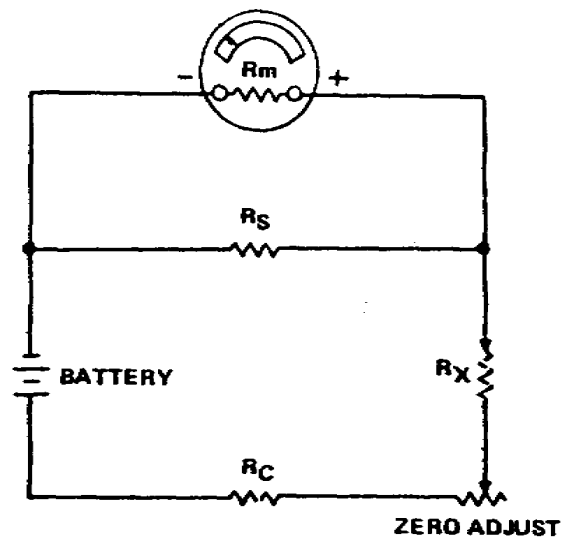
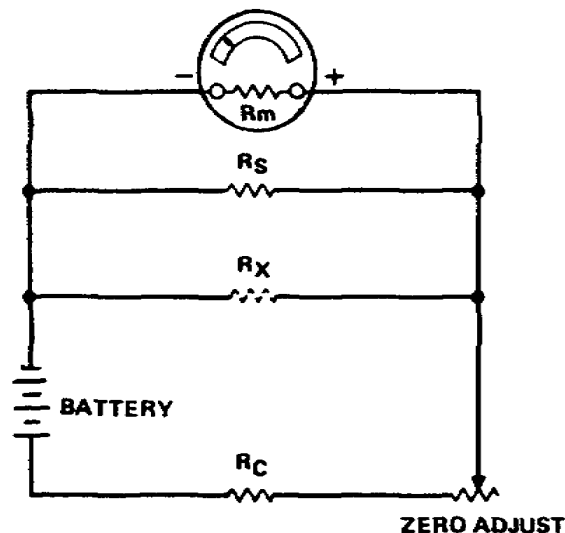

Figure 1-8. Typical ohmmeter circuit
Figure 1-10. A shunt ohmmeter
(3) If you double the meter resistance (increase to 4000 ohms), the error in the voltage reading diminishes to 30 percent (40 volts across  $R_1$ ). If you increase the ratio between the meter resistance and load resistance even more by increasing the meter resistance you obtain a point where the voltmeter error can be tolerated.
(4) For practical purposes, the voltmeter error can be tolerated when the voltmeter resistance is ten times as great as the resistance across which the voltage is measured.
c. Ohmmeter. The ohmmeter is a device that uses a current-actuated meter and a fixed source of voltage for measurement of resistance (refer to Figure 1-8). It is used for practical work where simplicity, portability, and ease of operation are more important than a high degree of precision. There are two types of ohmmeters, the series type and the shunt type. The series type has the resistance to be measured connected in series with the meter movement. The shunt type has the resistance to be measured connected in parallel with the meter movement.
(2) Since the ohmmeter is calibrated at mid-scale, the mid-scale portion represents the most accurate portion of the scale. However, the usable range extends, with reasonable accuracy, on the high end to 10 times the mid-scale indication, and on the low end to 1/10th of the mid-scale indication.
(3) To extend the usable high range of the series-type ohmmeter, shunt  $R_s$  (fig 1-8), can be removed from the circuit, and the value of the series-dropping resistor  $R_c$  increased 10 times. This permits a mid-scale reading with a resistance of 10 times  $R_x$ . The limitations which prevent a further increase in the usable high range of the ohmmeter are fixed voltage (battery) and the sensitivity (current necessary for full-scale deflection) of the meter mechanism. You can obtain a higher range by increasing the battery voltage or by using a more sensitive meter mechanism. The former method is practical, and is used in some commercial test equipment.
(4) You can extend the usable low range of the ohmmeter by installing meter shunt  $R_s$  and decreasing  $R_c$  until the current in the circuit and the internal resistance of the battery limit any further extension of the range. Excessive current can extend the low range by decreasing the battery voltage, but this method is not feasible. Instead, a shunt-type ohmmeter is used.
d. The shunt-type ohmmeter (fig 1-10), measures low and medium values of resistance. The shunt-type ohmmeter scale is calibrated in the reverse direction from the series type because full-scale deflection is obtained with test probes open.
(1) Mid-scale deflection occurs when the combination of the meter resistance and the shunt  $R_s$  is equal to  $R_x$ , the resistance to be measured.
and limiting resistor must be 5000 ohms if we are to obtain full-scale deflection. Full-scale deflection indicates zero resistance, and the meter scale is marked "0" ohms at 1 milliampere point (fig 1-10). When a resistor (Rs) is placed between terminals T1 and T2, the total resistance of the circuit is increased, and a smaller current flows through the meter.